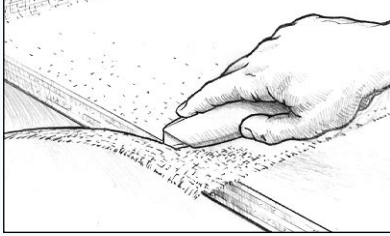

Figure 25 Trim excess cloth after the epoxy gels but before it cures hard.
8. Trim the excess (*Figure 25*) and overlapped cloth after the epoxy has reached its initial cure. The cloth will cut easily with a sharp utility knife as long as the epoxy is not fully cured. If required, trim overlapped cloth as follows.